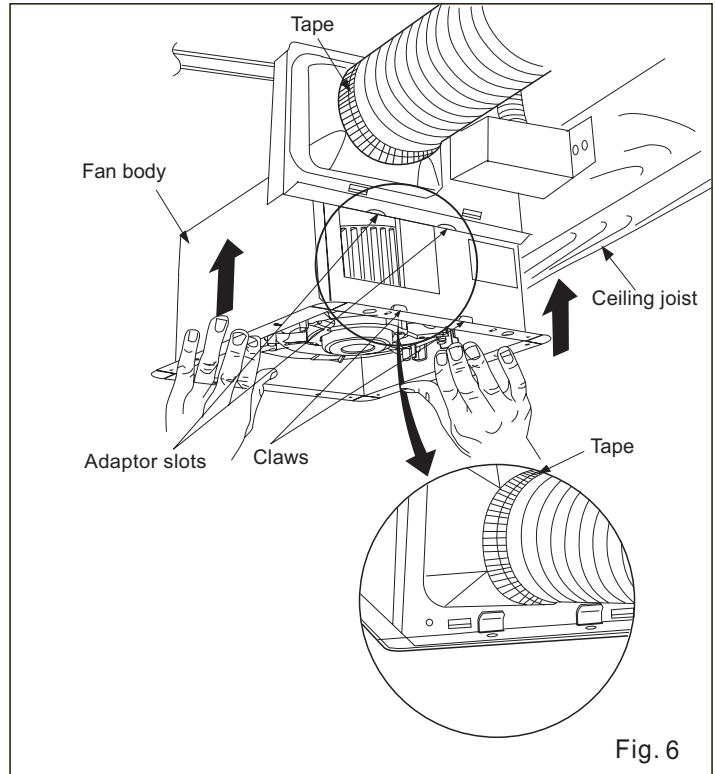

Fig. 6
7. Insert fan body into ceiling. (Fig.6)
4. Insert fan body (without blower section) into ceiling. (Fig.6)